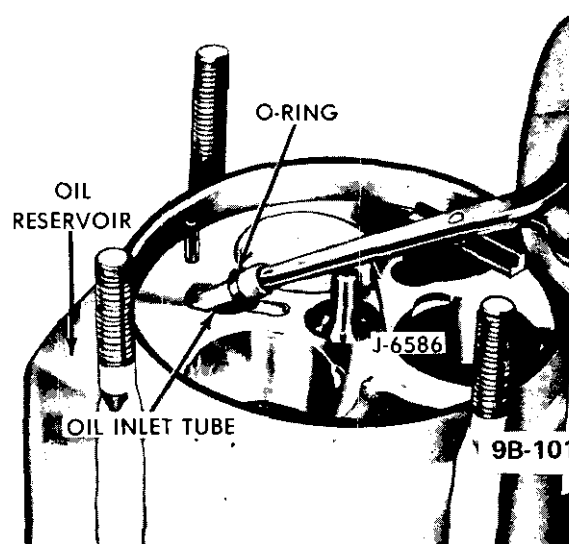

Figure 9B-101 Removing Oil Inlet Tube
2. Push shaft upward from front head and lift out cylinder assembly (see Figure 9B-128), front suction valve reed disc, and front discharge valve plate.